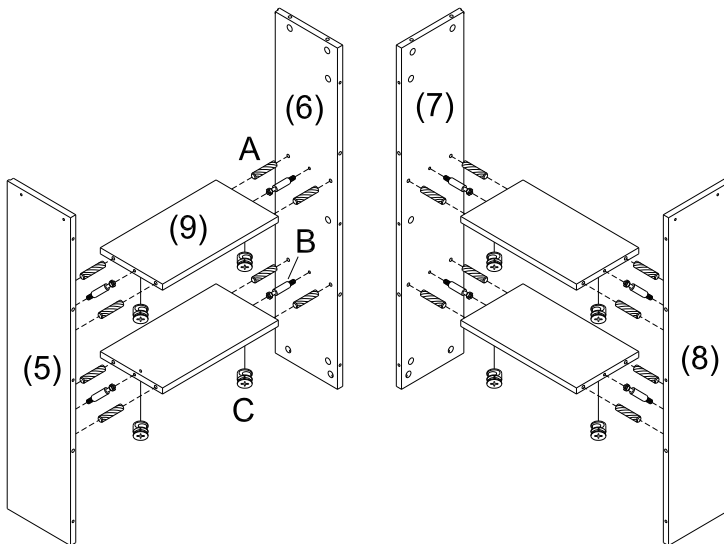

Figure 1
Attach assembled unit on figure 1 to Front Frame (11) by inserting Wood Dowels (A) and Cam Bolts (B) into corresponding holes until Front Frame (11) and assembled unit on figure 1 meet.